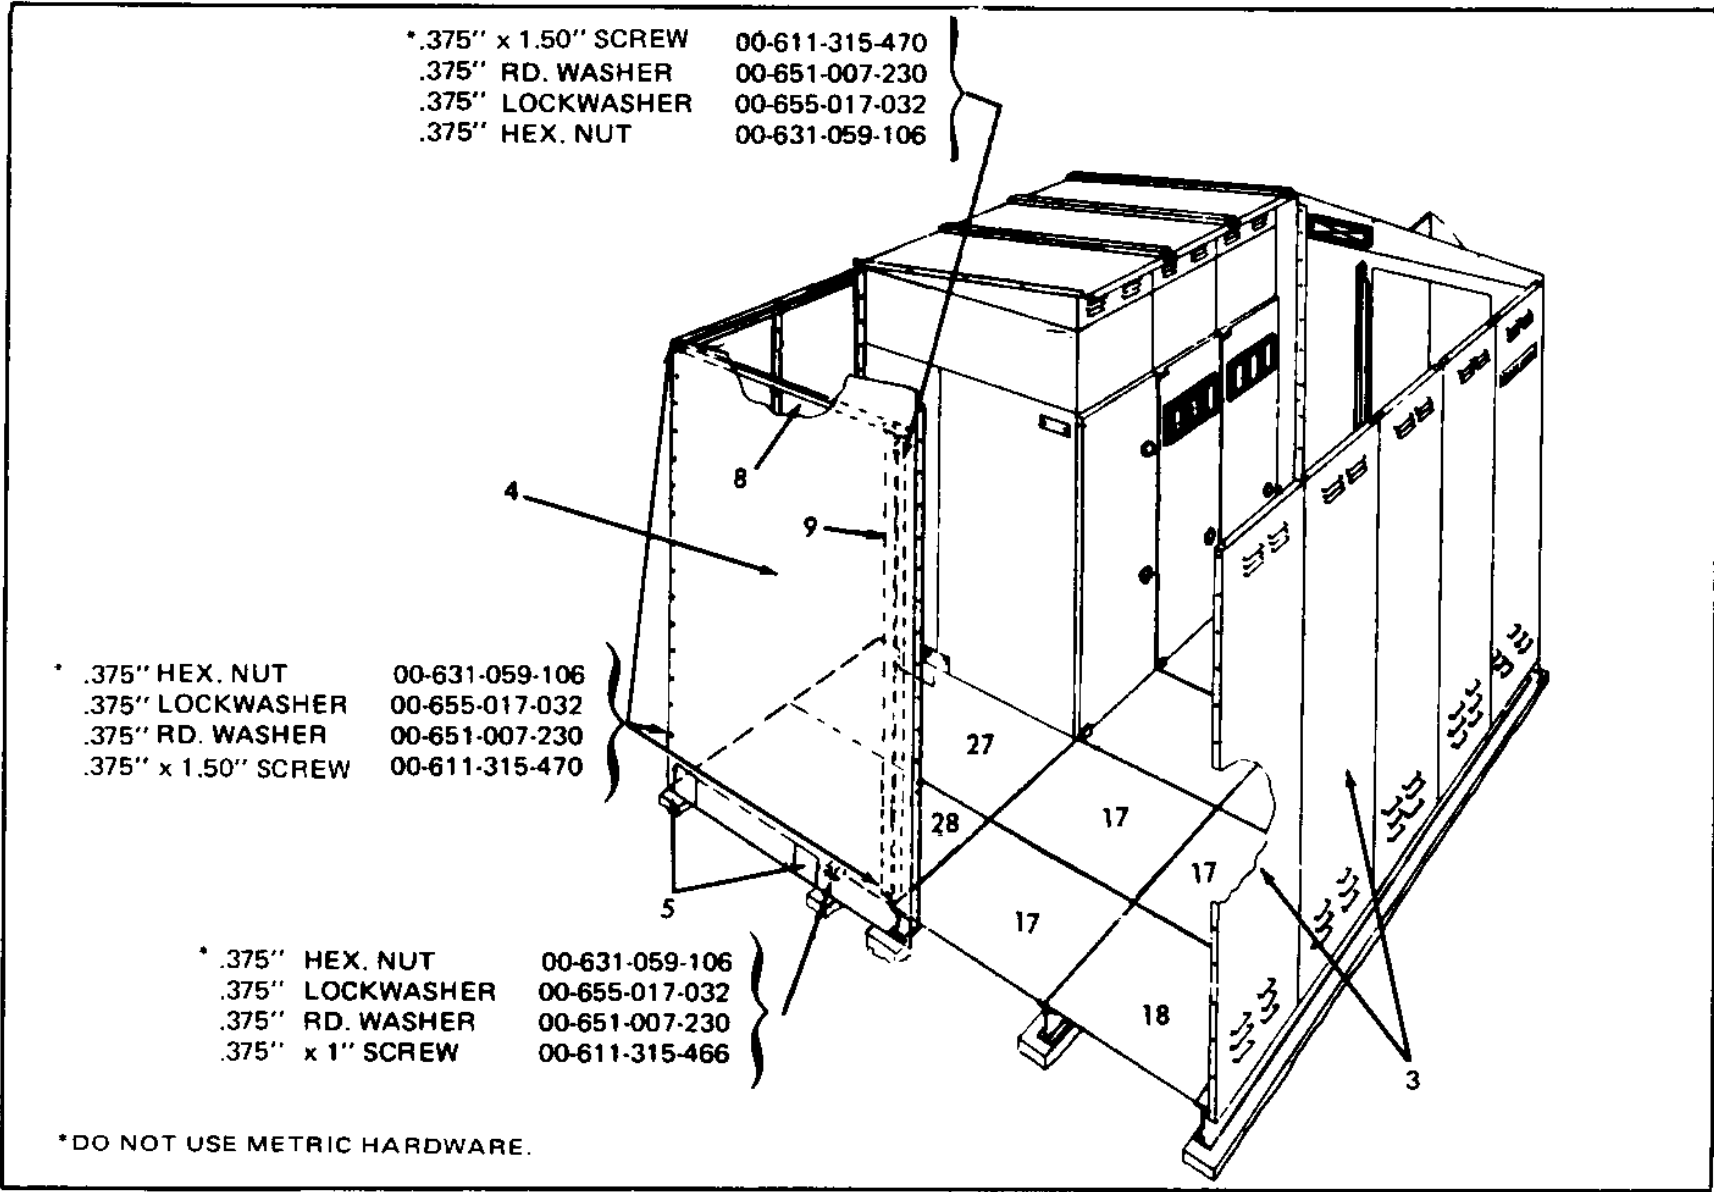

Figure 38. End Cover Installation (5 kV) – Single Aisle with Work Space
7. Bolt plates (3) together, to switchgear unit and to beam (1).
9. Attach angles (10) to ends of beams.
10. See Figure 38. Install angles (8 and 9) at the end of the work space. Secure the angles together with 00-615-331-466 flat head screws.
11. Install end plate (4) and attach it to plate
(3) and angles (8), (9), and (10).
12. Install floor plates (17 and 18) in the same arrangement as that for single aisle layouts (see Figure 26). Install floor plates (27 and 28) as shown in Figure 38. Install cover (5).